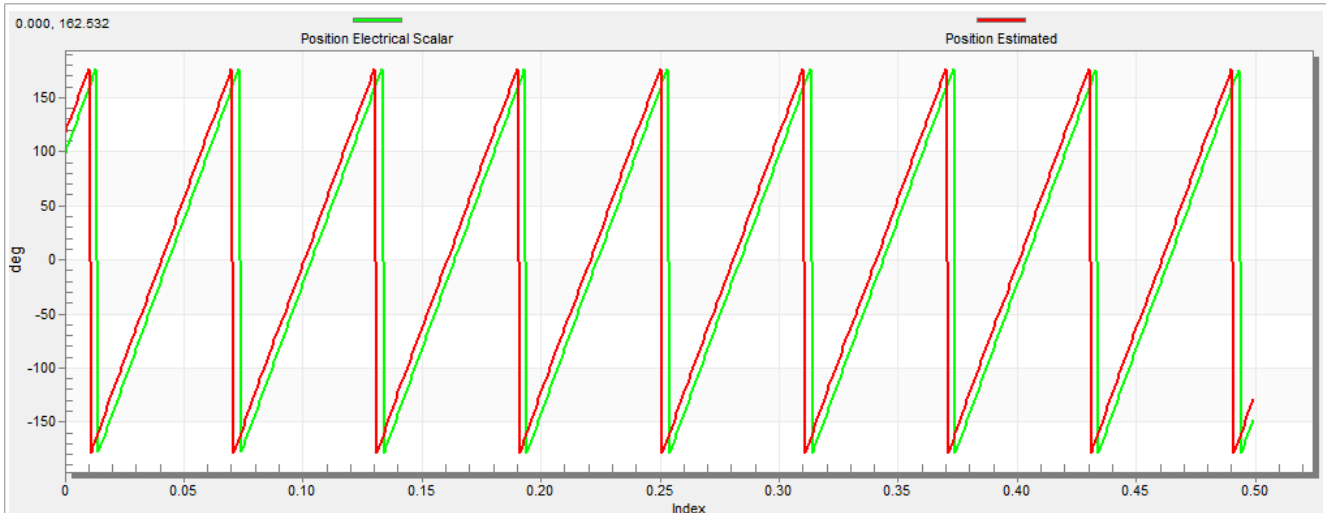

Figure 29. Generated and estimated positions
6. Select the "Position" recorder to check the observer functionality. The difference between the "Position Electrical Scalar" and the "Position Estimated" should be minimal (see Figure 29) for the Back-EMF position and speed observer to work properly. The position difference depends on the motor load. The higher the load, the bigger the difference between the positions due to the load angle.